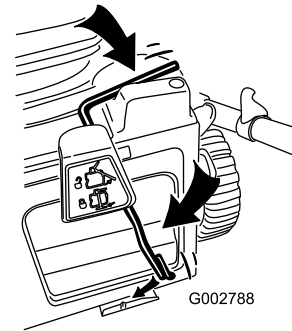

Figure 8
2. Swing the lever into the switch channel and lever retainer (Figure 8).